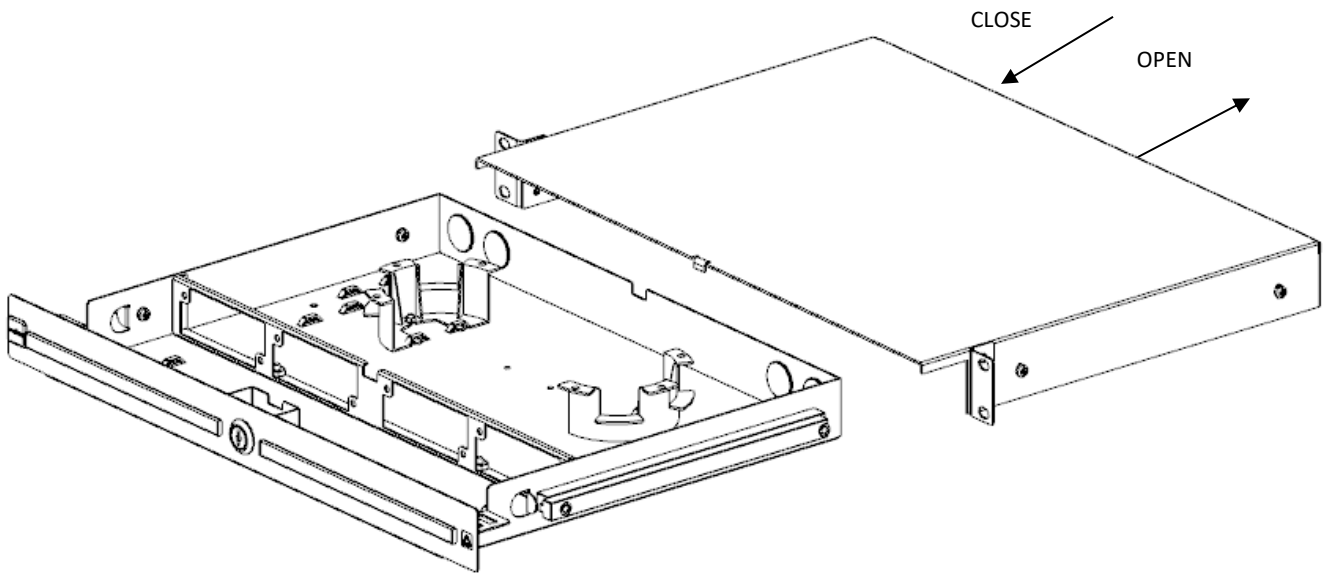

Fig.1
3.0.1 Open/close slide drawer (Fig.1)